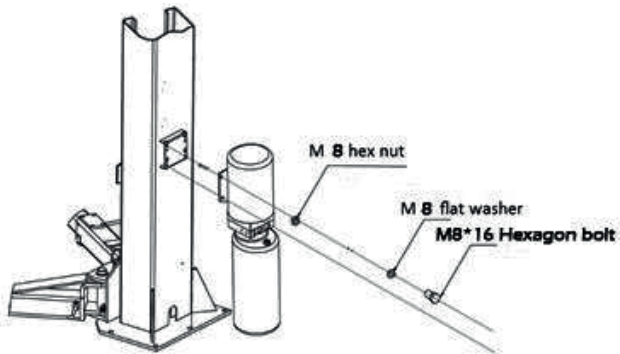

Fig. 8
7. Mount the power unit onto the power side post (**fig. 8**).